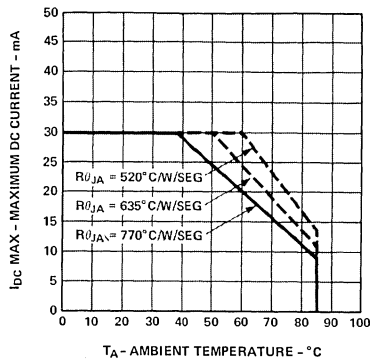
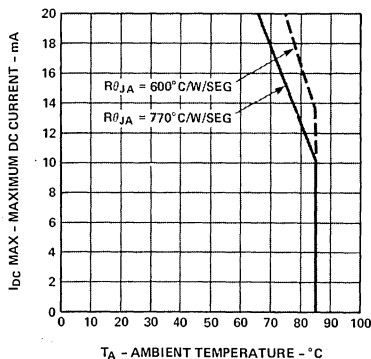

Figure 9. Maximum Allowable DC Current and DC Power Dissipation per Segment as a Function of Ambient Temperature — HDSP-7500 Series
Figure 10. Maximum Allowable DC Current and DC Power Dissipation per Segment as a Function of Ambient Temperature — HDSP-7400 Series
9. See Figures 2, 9, 10, and 11 to derate maximum DC current. (Figure 2, HDSP-7300 Series; Figure 9, HDSP-7500 Series; Figure 10, HDSP-7400 Series; Figure 11, HDSP-7800 Series)